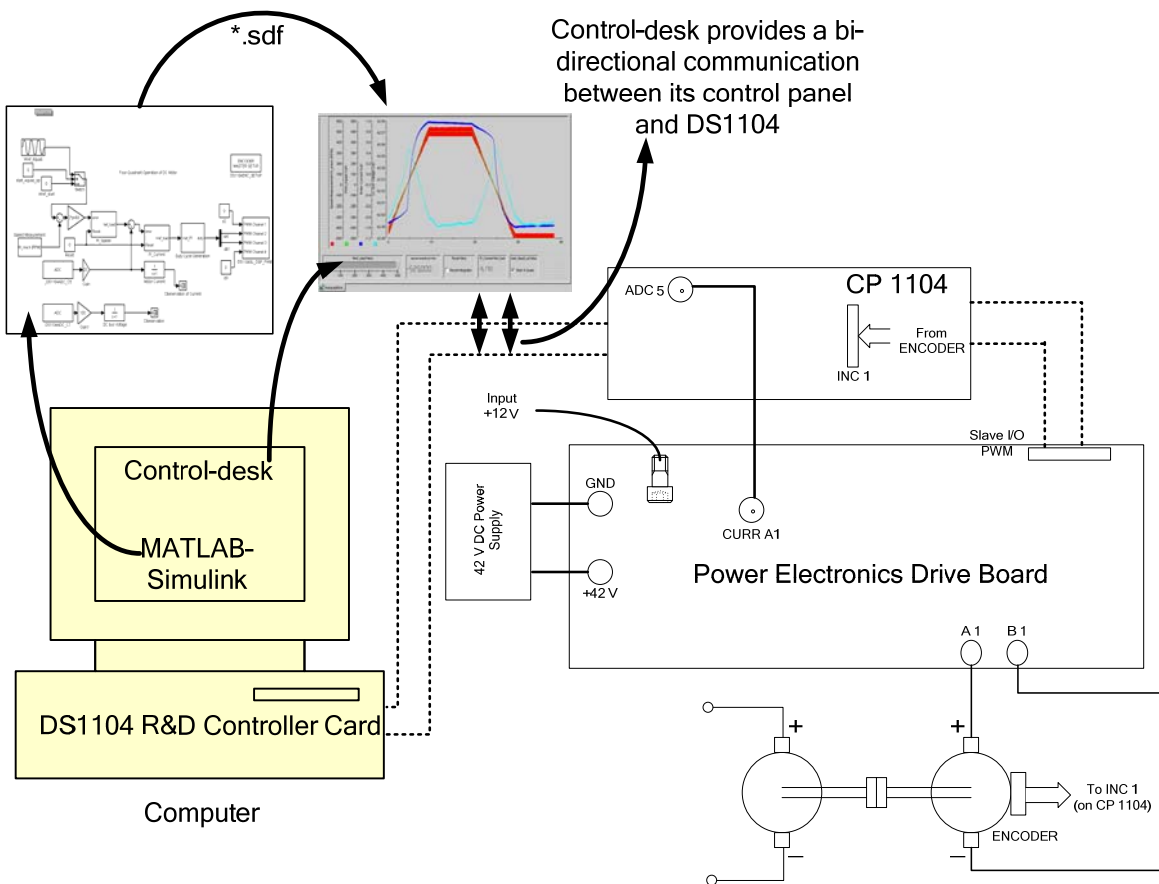
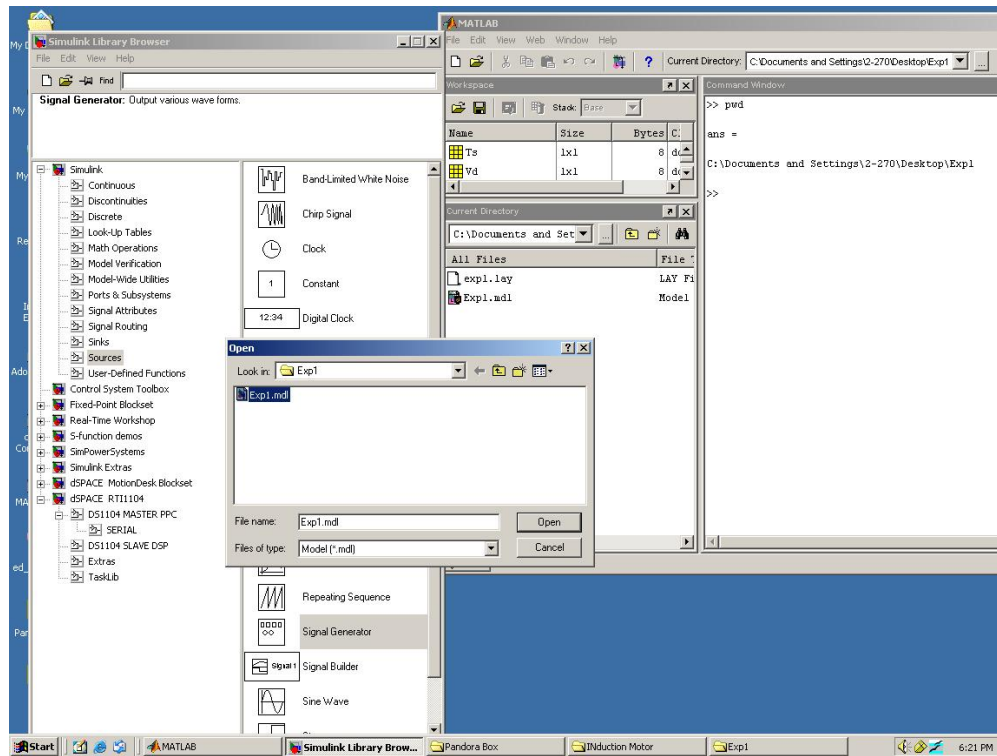

Figure 1.3: Demonstration of DC motor speed-control
Figure 1.4: Opening the Simulink file Exp1.mdl, changing the path of current working directory
system. This file gives access to the variables of **control-system** (like reference speed, gain, tuning the controller etc) to separate software called Control-desk. In this software a control panel (see Fig 1.3) can be created that can change the variables of **control-system** in real time to communicate with DS1104 and hence change the reference quantities such as the speed or torque of the motor.
The system for the speed-control of a DC motor is shown in Fig 1.3. Note that the currA1 (i.e. phase-current of DC motor) and encoder signal (speed of DC motor) is fed back to the DS1104 board via CP 1104. The requirement of feeding back phase-current and speed of the motor will be studied in Experiment-4. For now, assume that these two quantities are required to control the speed of DC motor. Perform the following steps to run the experiment. The communication between the four components (explained in section 1.2) is detailed in each step, wherever necessary.
- Connect the circuit as shown in Fig 1.3. You are given with files **Exp1.mdl** (Simulink **control-system** file) and **Exp1.lay** (control panel in Control-desk). Create a new folder on desktop as **Exp1** and bring these two files into that folder. Open MATLAB Simulink and set the folder **Exp1** as the path of the current working directory. Verify in the command window for the correct path (Fig 1.4). Open the Simulink file **Exp1.mdl** as shown in Fig 1.4.